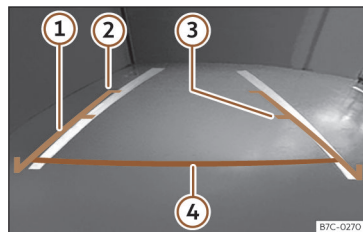

Fig. 186 On the Infotainment system screen.: guide lines.
- Vehicle load modifies the representation of the guide lines»» Fig. 186. The width
»» **Fig. 186**